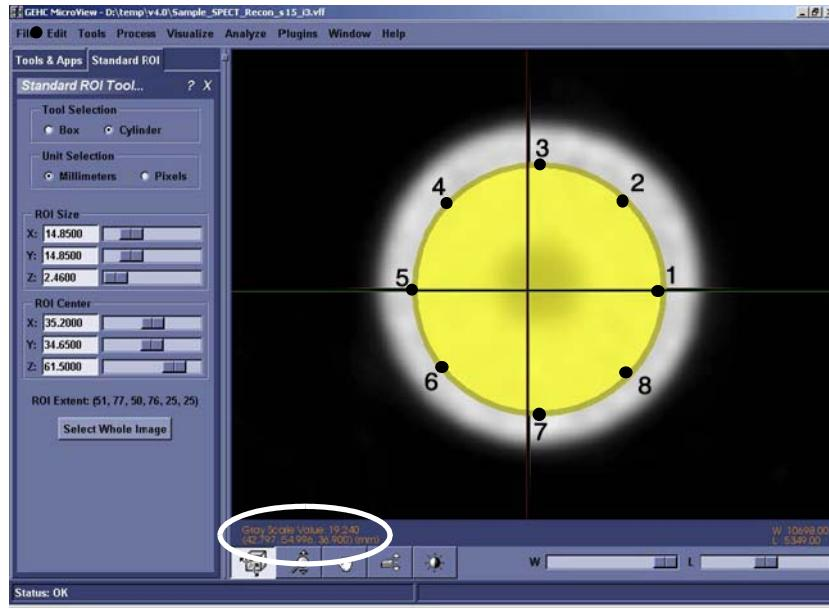

Figure 7-56
- 6.) Click the Standard ROI button in MicroView. See Figure 7-56. Under Tool Selection, click the Cylinder radio button. Use the ROI Size sliders to draw a cylinder around the region of interest (ROI) of dimensions X=18, Y=18 and Z=24. Adjust the ROI Center sliders until the crosshairs are at the center of the phantom.
- 7.) Move the mouse over the 8 locations and read the Gray Scale Value for each (circled in Figure 7-56). Use the following formulas to get the mean and standard deviation for this data: